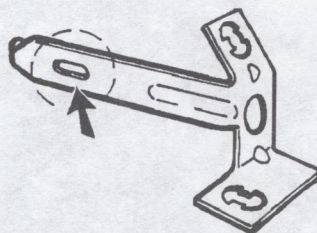

Figure 4. Mounting hole on pedal switch bracket
12. Inspect the mounting hole on the side of the pedal switch bracket. This should be of an elongated shape as shown in Figure 4. If it is not, replace the bracket using the latest design, P/N 41-08-759. This elongated hole now provides overall brake pedal switch adjustment.